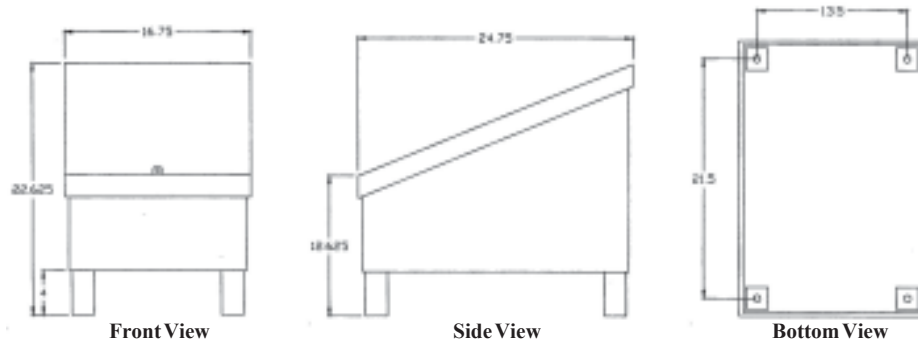
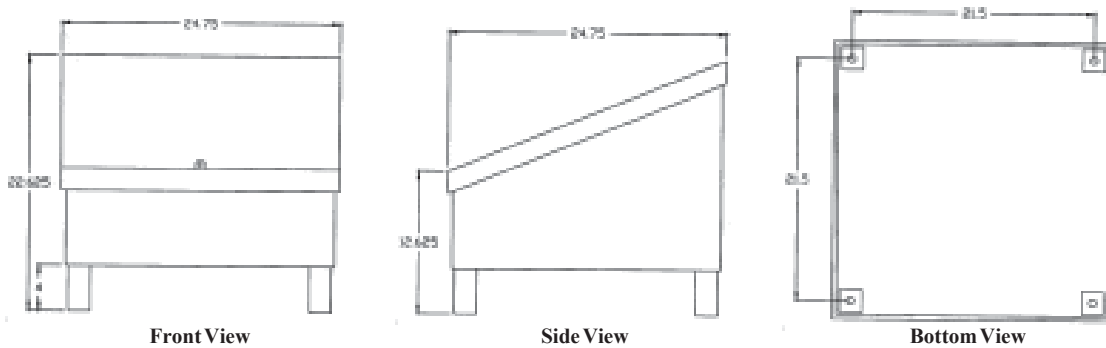

Figure 1 - Small Cabinet
Figure 2 - Large Cabinet
1. The cabinet may be mounted on a wooden frame or a concrete pad. SEE Figure 1 for the dimensions of a small cabinet (1 compressor) and SEE Figure 2 for the dimensions of a large cabinet (2 compressors). The dimensions are in inches and are for reference purposes ONLY. The bottom view shows the location of the mounting holes in the cabinet legs.